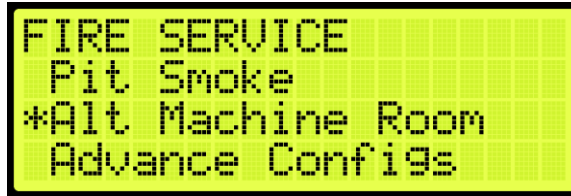

Figure 562: FIRE SERVICE Menu – Alt. Machine Room
2. From the FIRE SERVICE menu, scroll and select Alt. Machine Room (See Figure 562).
- Navigate to MAIN MENU | SETUP | FIRE (See Figure 562).
- From the FIRE SERVICE menu, scroll and select Alt. Machine Room (See Figure 562).